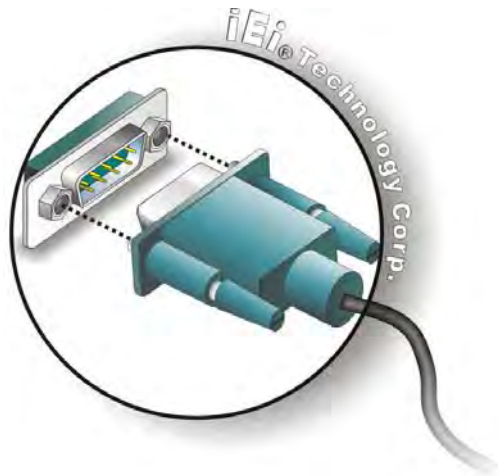

Figure 4-5: Serial Device Connector
Step 1: **Insert the serial connector.** Insert the DB-9 connector of a serial device into the DB-9 connector on the external peripheral interface. See **Figure 4-5**.